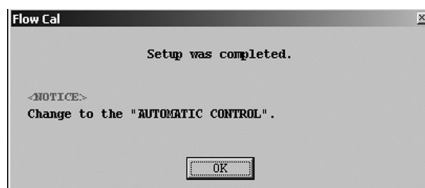

Fig.43
- ④ When the previous settings are replaced with the new settings just entered in response to clicking on "OK", a message box as shown in Fig. 43 appears. Clicking on "OK" button at this point completes the setup.